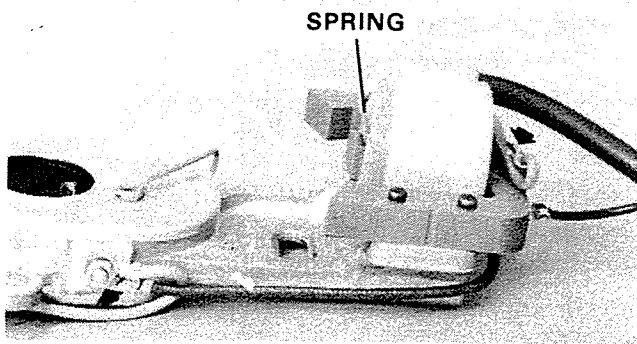

Figure 17. Removing Coil.
3. Pry lip of coil wedge spring up from coil laminations. Figure 17.